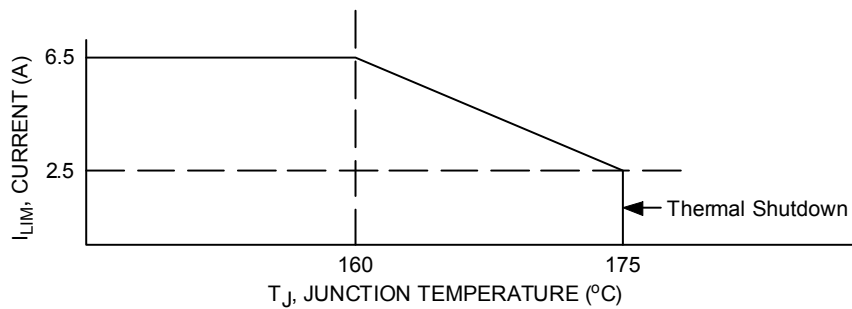
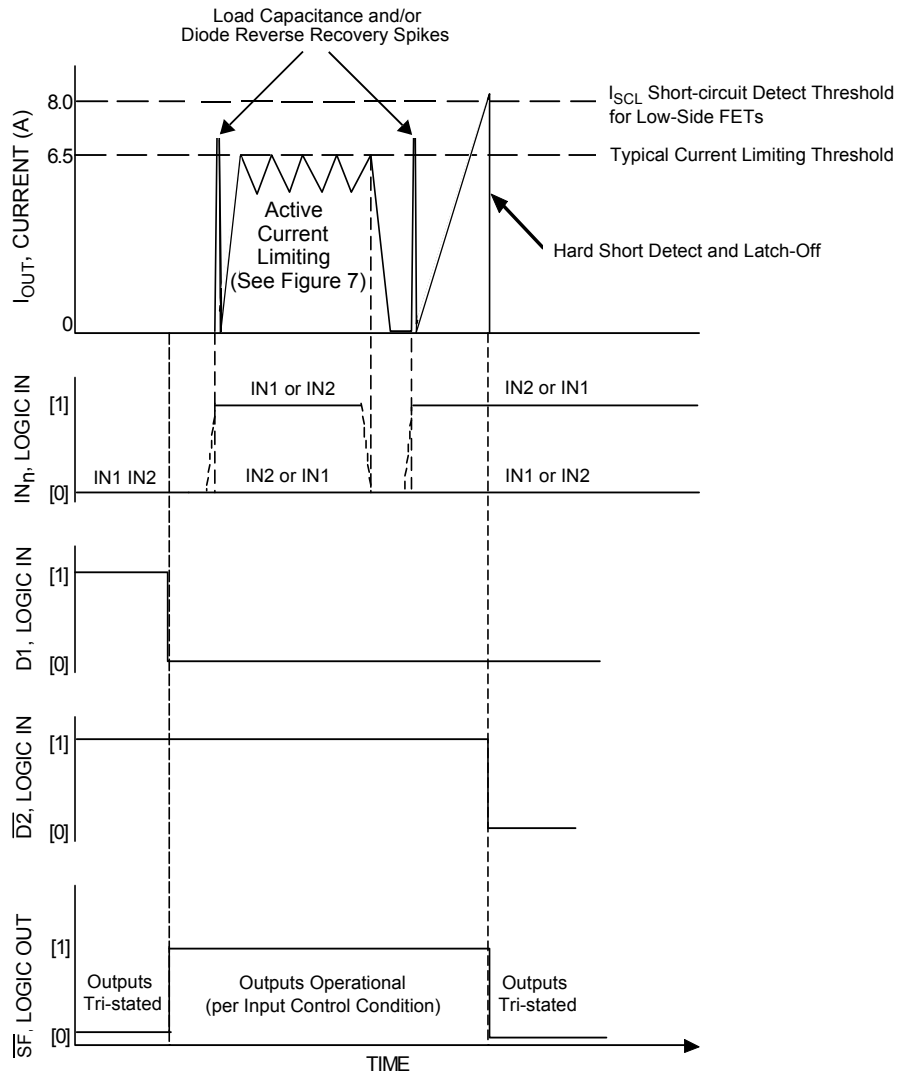

Figure 7. Active Current Limiting Versus Temperature (Typical)
Figure 8. Active Current Limiting Versus Time
26. Increasing currents will become limited at  $I_{\text{LIM}}$ . Hard shorts will breach the  $I_{\text{SCH}}$  or  $I_{\text{SCL}}$  limit, forcing the output into an immediate tri-state latch-OFF. See Figures 8 and 9, page 10. Active current limiting will cause junction temperatures to rise. A junction temperature above  $160^\circ\text{C}$  will cause the active current limiting to progressively “fold-back” (or decrease) to 2.5 A typical at  $175^\circ\text{C}$  where thermal latch-OFF will occur. See Figure 7, page 9.
The current limiting threshold value is dependent upon the device junction temperature. When  $-40\text{ }^\circ\text{C} < T_J < 160\text{ }^\circ\text{C}$ ,  $I_{LIM}$  is between 5.2 A and 7.8 A. When  $T_J$  exceeds  $160\text{ }^\circ\text{C}$ , the  $I_{LIM}$  current decreases linearly down to 2.5 A typical at  $175\text{ }^\circ\text{C}$ . Above  $175\text{ }^\circ\text{C}$  the device overtemperature circuit detects  $T_{LIM}$  and overtemperature shutdown occurs (see Figure 7, page 9). This feature allows the device to remain